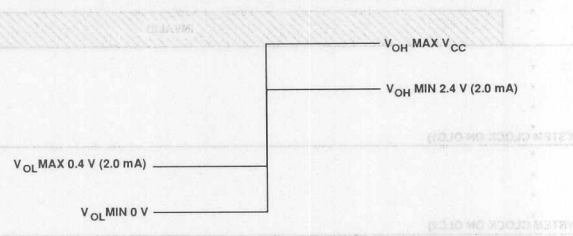

Figure 13. Link Status, Laser Fault and POR TP Driver Levels.
7. The Link Status, Laser Fault, and POR TP lines are control signals that should be treated as asynchronous lines. The drive levels for Link Status, Laser Fault, and POR TP are shown in Figure 13.